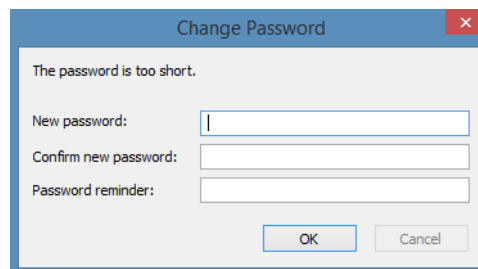

Figure 4-38: Change Password Dialog Box
4. Leave the Password blank and click **Login**. The Change Password dialog box will display (Figure 4-38).